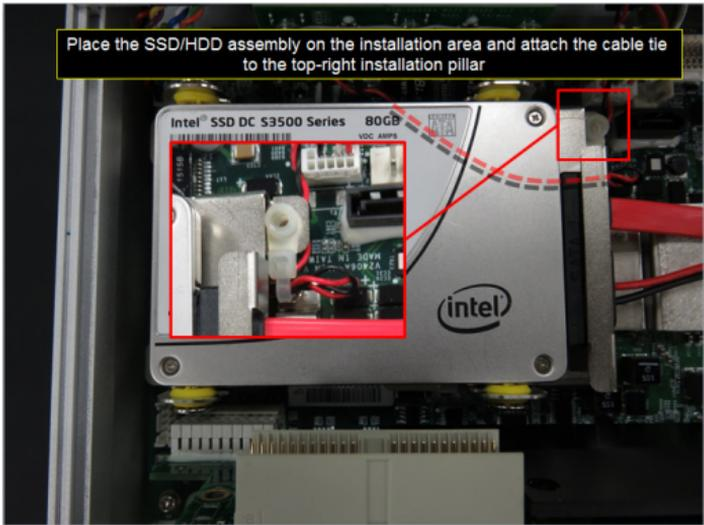

Figure 28
- 4.3.3 Place the SSD/HDD assembly on top of the four pillars in the installation area and put back cable tie as shown in Figure 28.